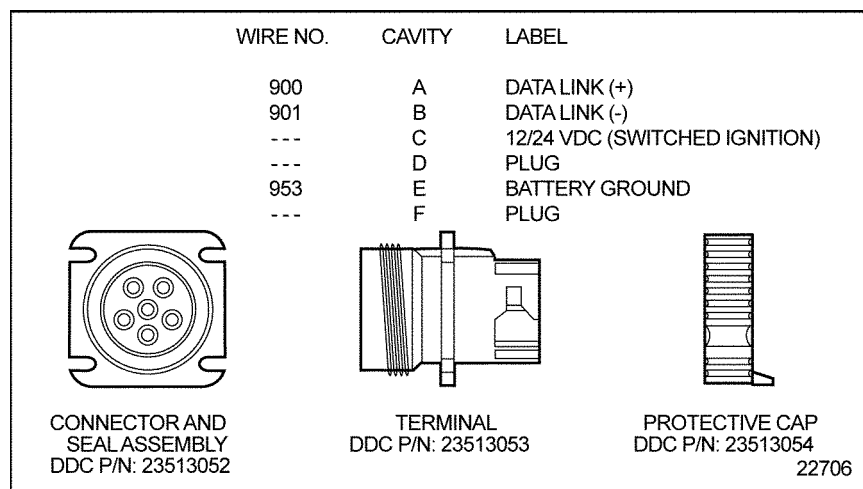

Figure 17-4 Diagnostic Connector
1. Turn ignition on. Plug DDR into DDL connector. See Figure 17-4.